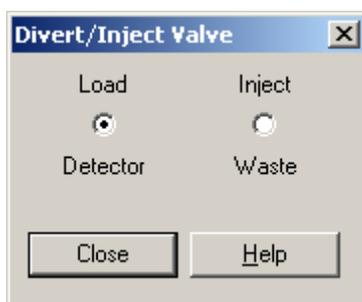

Figure 34. Divert/Inject Valve dialog box
- a. Click the **Divert/Inject** button to open the Divert/Inject Valve dialog box. See Figure 34.